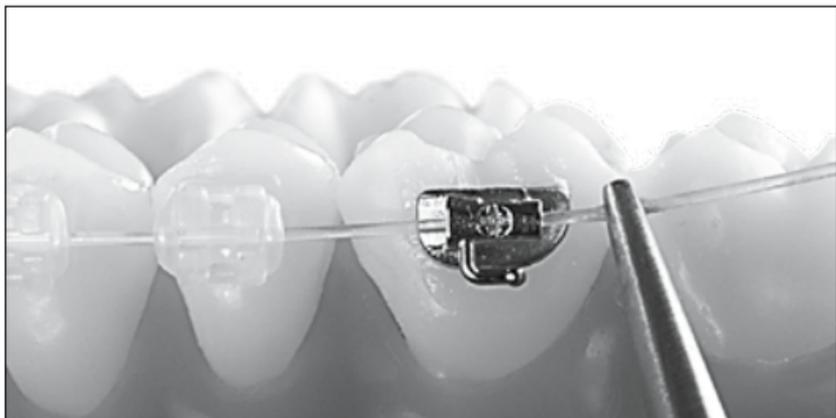

Fig. 2: Pull the archwire distal to the molar tube.
- Pull the translucent archwires pearl distal to the buccal tube (Fig. 2).